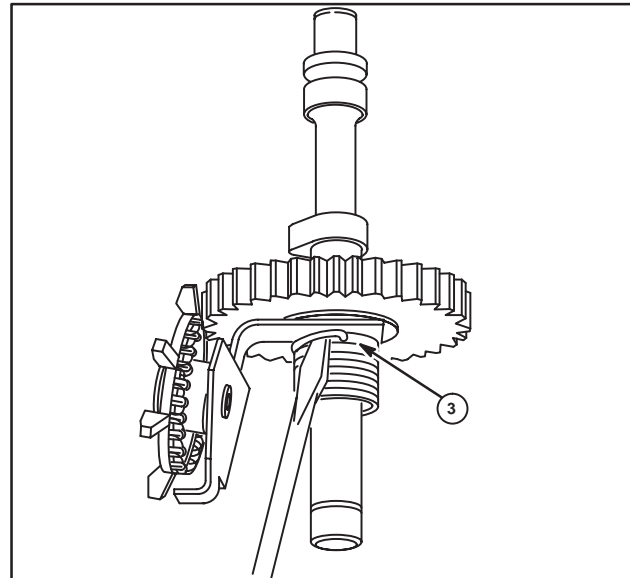

Fig. 57
- Slide clutch spring down, Fig. 57 and lift out upper spring tab (3) to remove spring. Cam gear, oil slinger and clutch drive hub are serviced as an assembly.